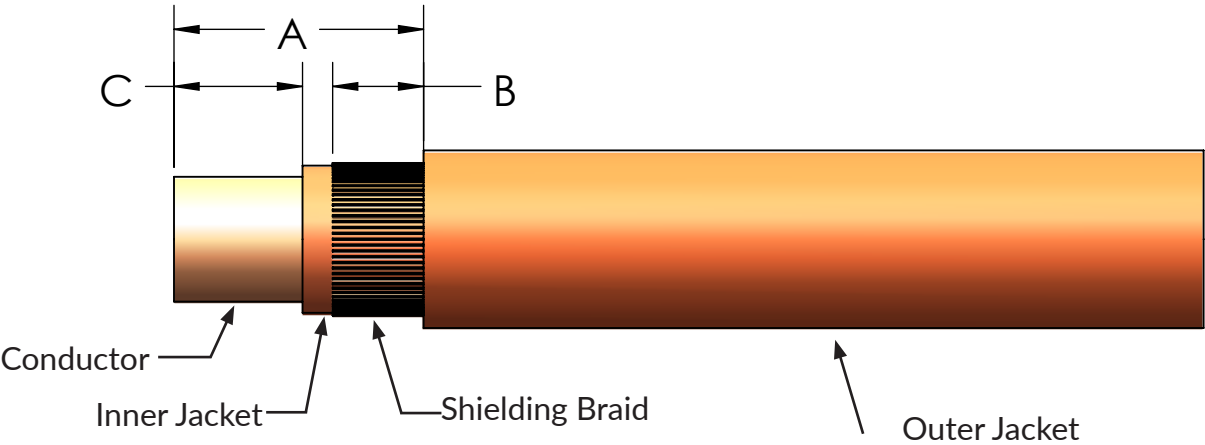

Figure 4
3) As figure 4 shown, strip the inner jacket per table 3 dimension “C,” the conductor should not be damaged during stripping: